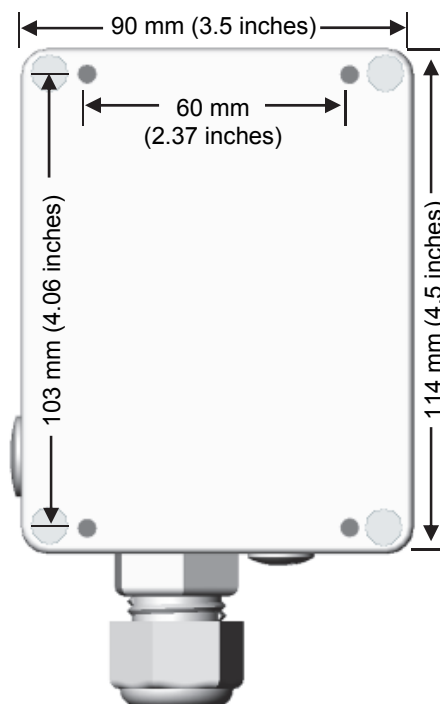

Figure 10: Dimensions for mounting pattern
- If mounting the logger to a post or wall, note that it is 60 x 103 mm (2.37 x 4.06 inches) between the center of the holes on the back of the logger. See Figure 10 on page 21.
2. There are four holes next to each of the four screw holes used to attach the clear cover as shown below. Screw in the four Phillips-head screws through the inside of the case into the flat surface. Use the dimensions in Figure 10 for determining where to drill holes on the mounting surface.